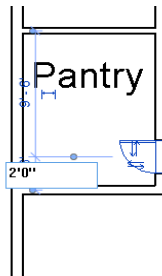

Figure 3-79 Moving the door to the exact location
8. Since the location of the door is given with reference to the side interior wall, click on the lower temporary dimension, and then enter **2'0"** for Imperial or **600 mm** for Metric, as shown in Figure 3-79. Next, press ENTER; the door moves to the specified location.